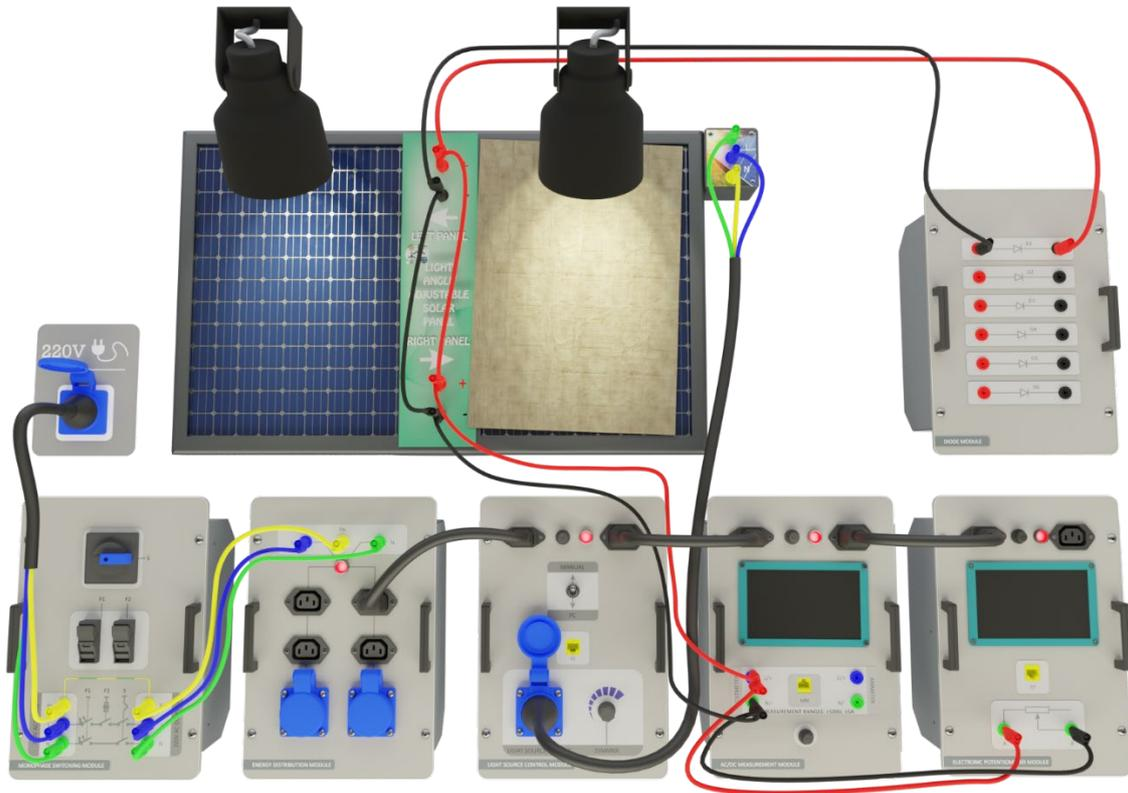

Figure-49. Installation Image of Examination of Effect of Bypass Diode in Photovoltaic Panels (with Shadow Effect)
7. After recording these measurements, connect the panels in parallel as shown in Figure-49 and Figure-50, and repeat the same experiment, measuring the voltage and current in the MM module, and record them in Table-42.